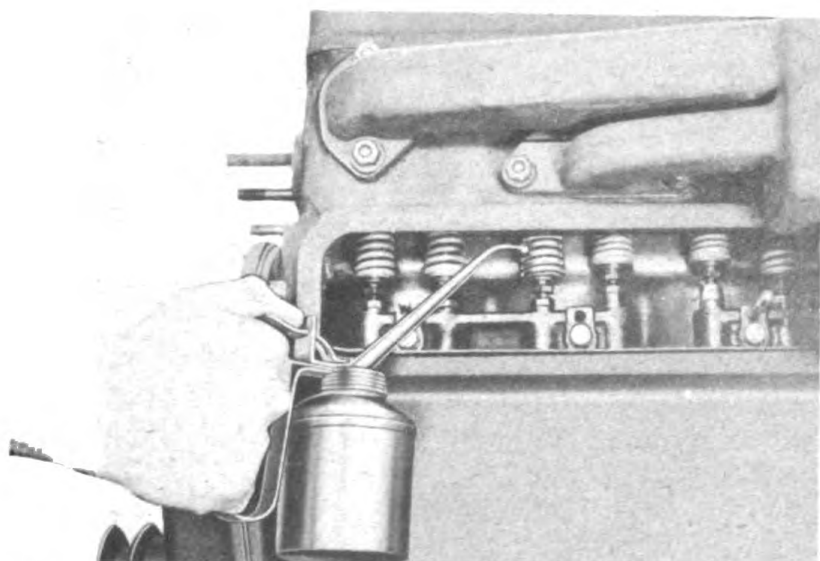

Figure 14. Oiling valve stems and springs with special oil pump gun.
G. Remove valve cover and squirt oil with an oil pump gun on the valve stems and springs. Use special oil pump gun. See Figure 14. Replace and tighten the cover.